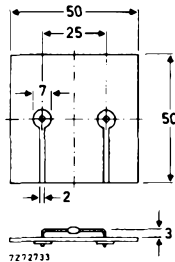

Fig. 2.
2. Thermal resistance from junction to ambient when mounted on a 1,5 mm thick epoxy-glass printed-circuit board; Cu-thickness  $\geq 40\ \mu m$ ; Fig. 2